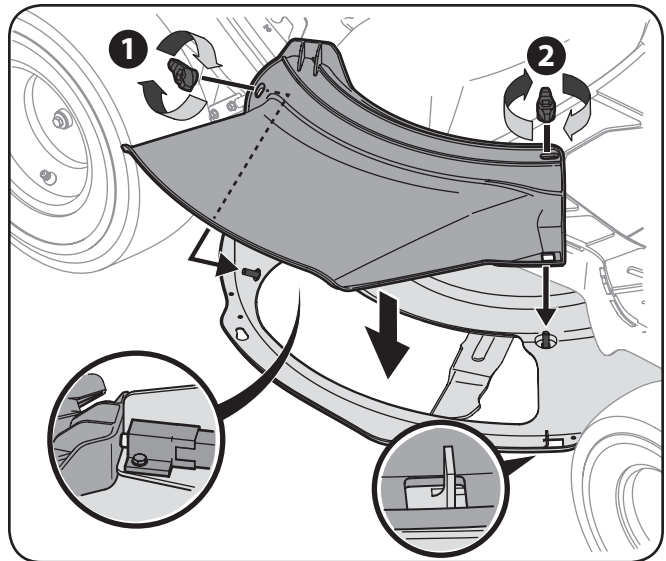

Figure 3-8
2. Install the deck chute into the deck discharge opening on the deck. The studs on the deck surface will fit through the holes on the upper portion of the deck chute. The small tab on the deck lip area will fit through the square cutout on the lower portion of the deck chute. See Figure 3-8.
3. Secure the deck chute by tightening the wing knobs removed earlier. See Figure 3-8.